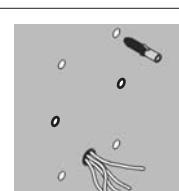

Fig. 3
- 3 - Locate the 4 plugs provided (Fig. 3);